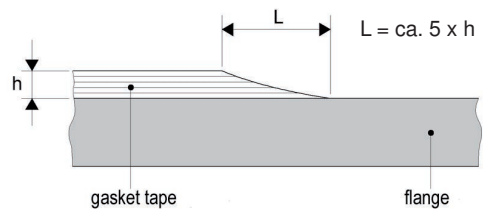

Figure 1
- Execute a bevel cut as shown in Figure 1.